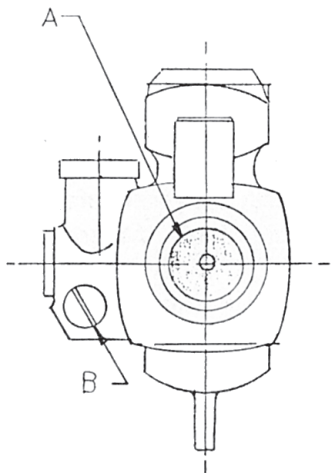

FIGURE 1
- e. To adjust the pilot flame, remove pilot adjustment cap "B" (Figure 1) to expose the adjusting screw. Rotate the adjusting screw clockwise to reduce the gas flow; and counterclockwise to increase the gas flow, to provide a properly sized pilot flame (approximately $\frac{1}{2}$ " to $\frac{3}{4}$ " long) Replace the adjustment cap "B".